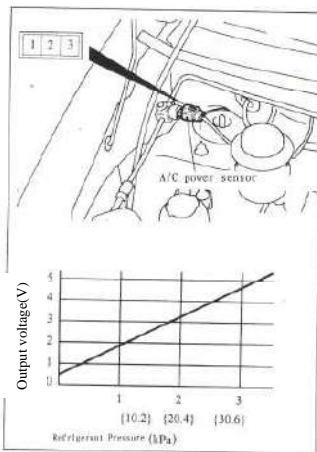

Fig.21-4
- (1) Install a gauge manifold to the high-pressure side service valve of the refrigerant line.
- (2) Start the engin and operate the system.
- (3) Check the voltage between between the pressure sensor terminal 2 and earth. The standard value is shown in Fig.21-4